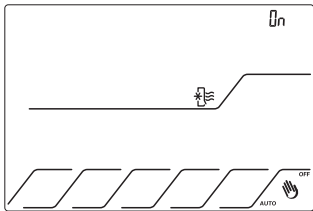

Fig.15
4.2.4 Press OK to confirm. The display shows ON and  fig.15. If it's not confirmed after 10 seconds it returns to Stand-by.